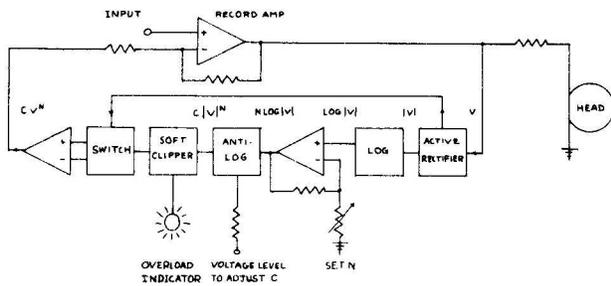

Fig. 2. Block diagram of predistorter.
Guided by the above measurements, several circuits were constructed using analog computer techniques to produce the exact inverse of Eq. (1). After a long and sometimes frustrating development, the type of circuit shown in Fig. 2 was chosen. The majority of the circuit is designed to compute a power of the signal at its input. This part of the circuit is then placed inside the feedback loop of the recording amplifier to generate the exact inverse of Eq. (1). The first step in finding the power is to find the absolute value of the signal using an active rectifier. The next step takes the logarithm of this absolute value. An amplifier then multiplies the logarithm by the value selected for N . The antilog is then taken, giving the absolute value of the input signal raised to
The soft clipper in Fig. 2 limits the action of the predistorter whenever the instantaneous level exceeds +10 dB with Scotch 206.. Above this level the distortion gradually rises to that of uncompensated tape. A red light is illuminated whenever a transient exceeds this level, and this light is a very valuable indication to the recording engineer. This limiting system was chosen after many listening tests and works well. Although the predistorter causes the higher order harmonic content of a grossly over-recorded tape to be somewhat greater than a normal tape at the same level, accidental overloads do not result in disaster.